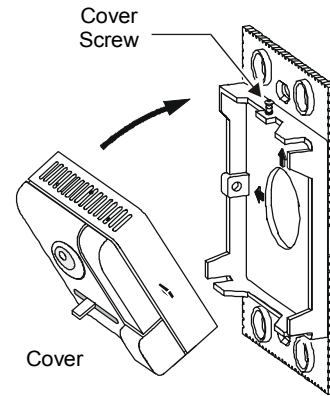

Figure 12: Reattaching the Cover to the Wallplate
2. Rotate the cover up onto the wallplate, and tighten the cover screw using the stat tool or Allen wrench. (See Figure 12.)